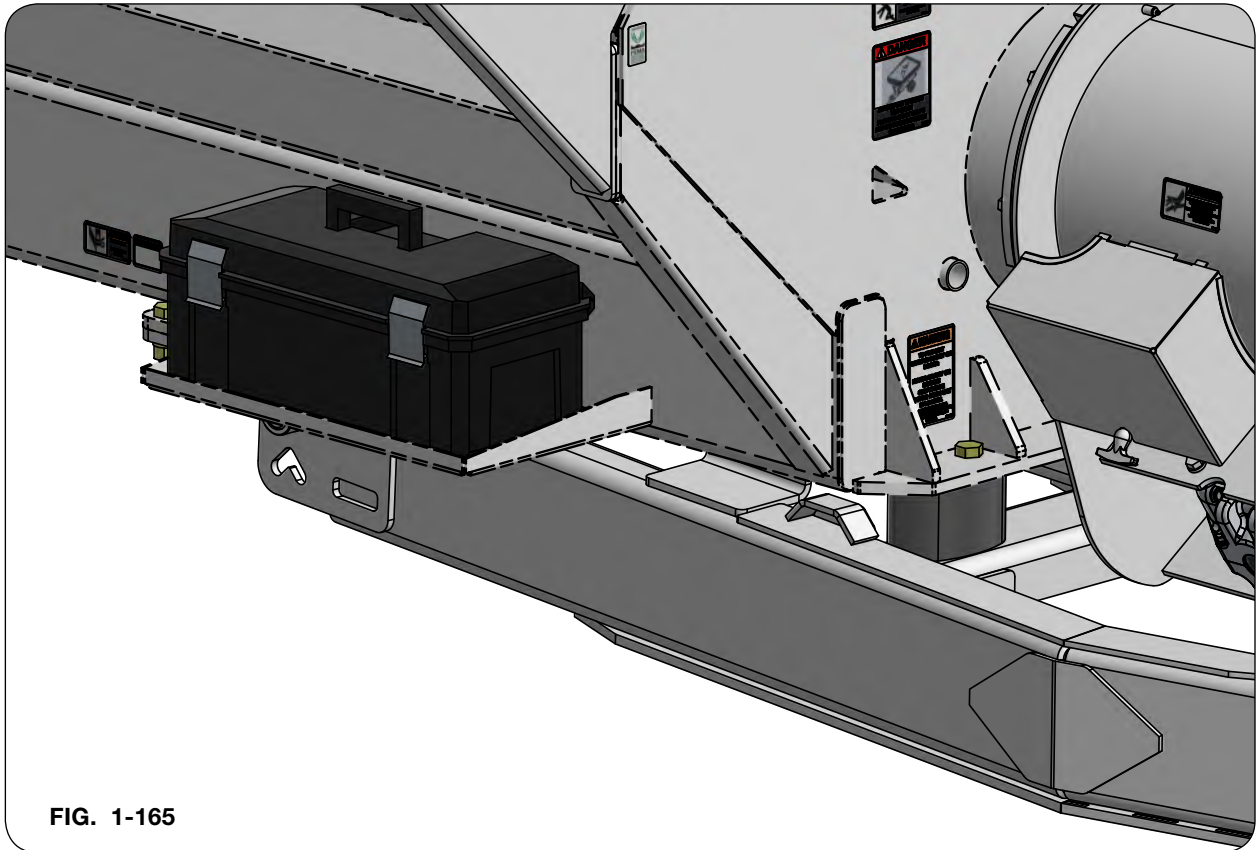

FIG. 1-165
1. Attach toolbox (9008634) to the toolbox mounting bracket with two 1/4"-20UNC x 1 1/4" capscrews (9390-006), fender washers (94763), 1/4" USS flat washers (9405-064), and 1/4"-20UNC lock nuts (9936). FIG. 1-165